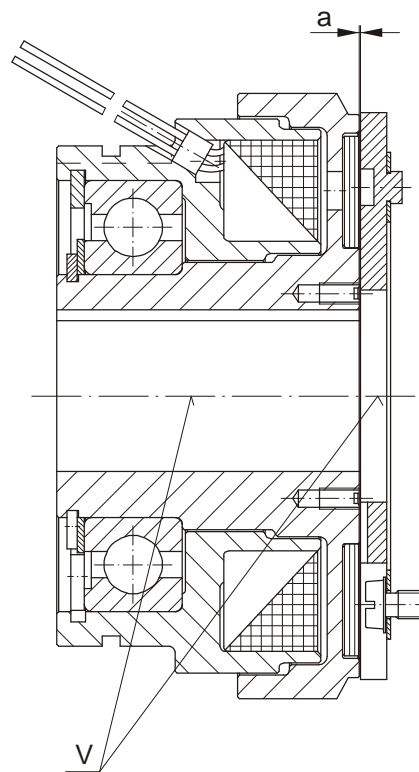

Fig. 6
Axial backlash on the mounting components alters dimension "a" and can lead to the rotor (1 or 2) rubbing against the armature disk (9). Additionally, please observe the permitted centre offset "V" of the mounted components on Type 540.100 (see Fig. 6 and Table 1).